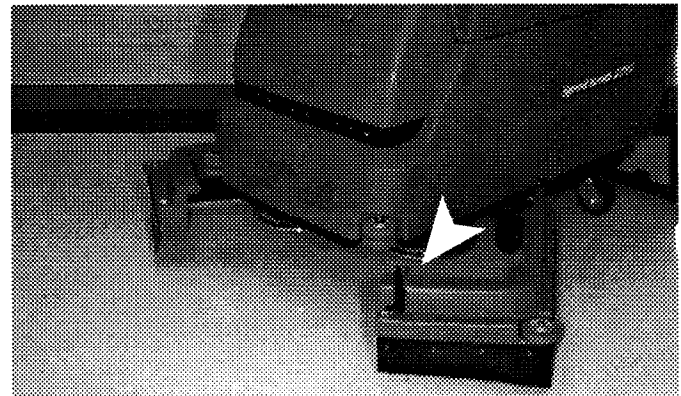

FIG. 6
- Unfasten black latch at front of machine and hinge open skirt housing to access motor hub. (Figure 6)